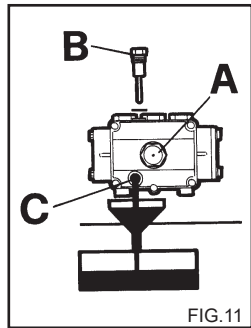

FIG.11
**2)** Unscrew the cap with the dipstick (fig. 11).